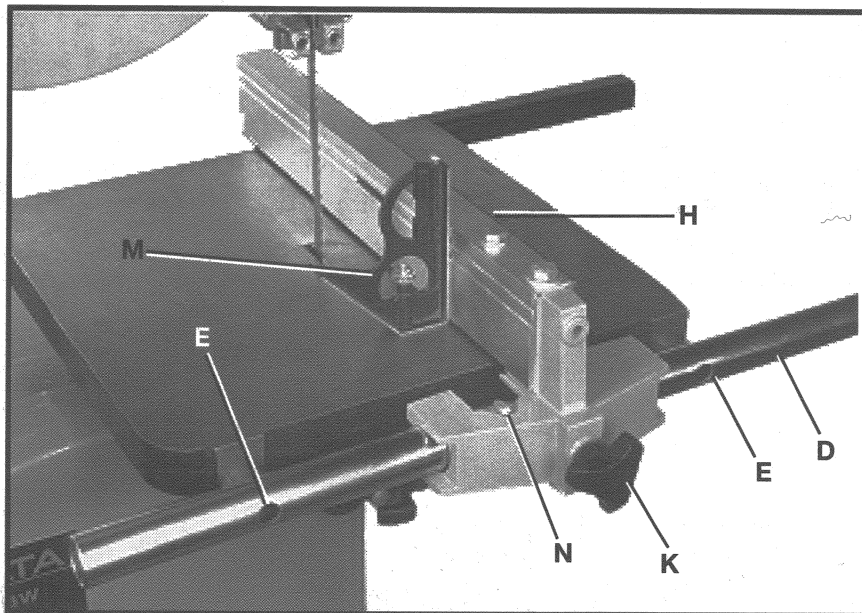

Fig. 7
8. Place a combination square (M) Fig. 7 against the side of the fence assembly (H). Tighten the knob (K). If the fence assembly is not perpendicular to the band saw table, adjust it by loosening the two hex socket head screws (E), and moving the front guide rail (D). Tighten the screws (E).
9. Place the fence assembly (H) Fig. 7 against the saw blade. Tighten the knob (K). If the pointer (N) is not aligned with the "0" (zero) marking on the front guide rail (D), adjust it by loosening the pointer screw and moving the pointer. Tighten the pointer screw.